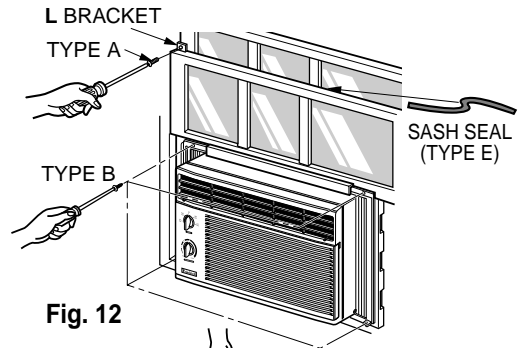

Fig. 12
Extend the Guide Panels (TYPE F) to fill the window opening using 4 screws (TYPE B) to secure them, as shown in Fig. 12.
a. Cut the Sash Seal (TYPE E) to the window width. Stuff the Sash Seal between the glass and the window to prevent air and insects from getting into the room, as shown in Fig. 12.
b. Fasten the L bracket using a screw (TYPE A), as shown in Fig. 12.